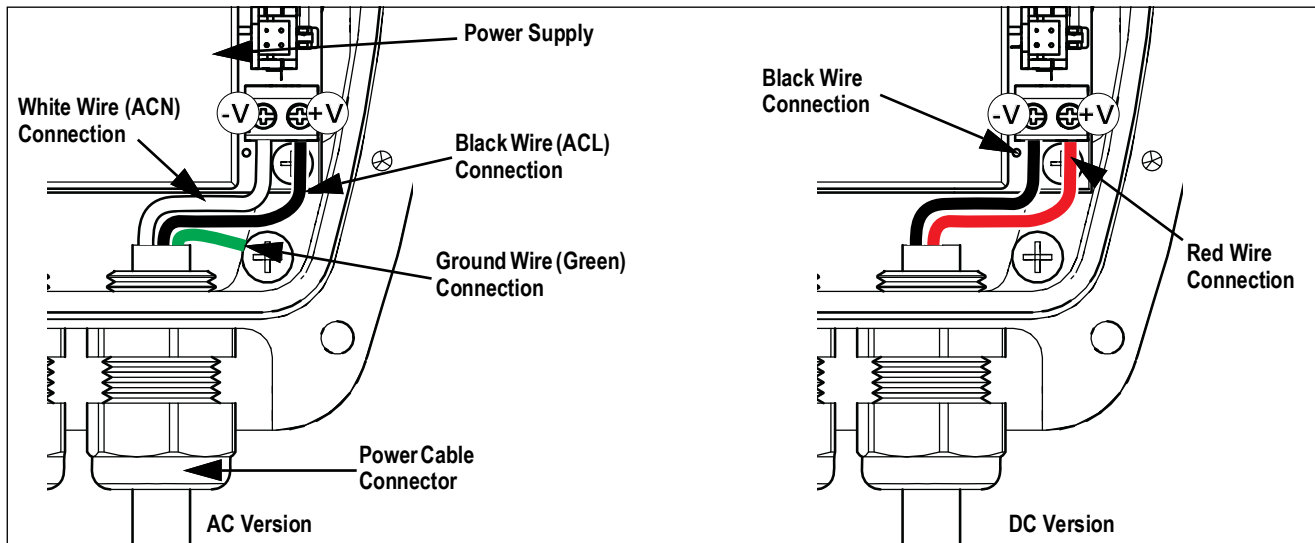

Figure 2-5. Power Supply
5. Push new cable through the cable connector and reconnect wiring as shown in Figure 2-5.